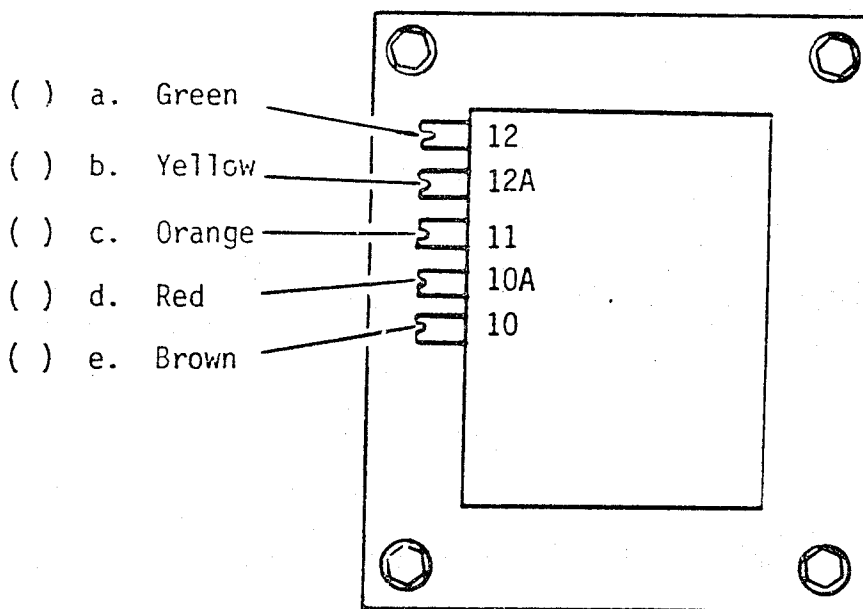

Fig. 1. Power Transformer Connections
5. Solder the wires in the 5-wire ribbon cable to the power transformer as shown in Fig. 1: